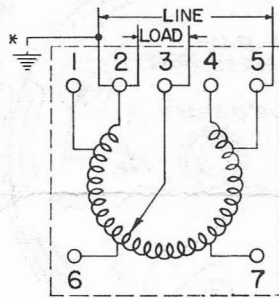
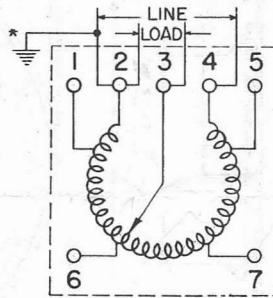

Figure 4
Figure 5
Dials are normally supplied for overvoltage operation, Figures 4, 6, 7, and 9. Dials for line voltage limit operation are available on special order. Dials are two-sided to permit either dial or pointer rotation, clockwise voltage increase being the rule in both cases. Pointers are provided, fastened to the under side of the dial, permitting fixed dial and moving pointer operation for panel mounting.
2. For particular applications, where the Variac is used with a fixed, known load, and where the overvoltage connection is omitted (Figures 5 and 8), maximum current may be drawn at line voltage. When the Variac is so connected, the current fall-off with decreasing output voltage will always keep the current within safe limits, except for incandescent lamp loads, which, for the Type V-5, should be limited to 6.5 amperes maximum.
RECOMMENDED CONNECTIONS are diagrammed in Figures 4 to 9 inclusive.
"T" MODEL CONNECTIONS are provided in the form of cord, plug, outlet and 2-pole switch. Figure 4 connections are normally supplied; Figure 5 connections may be obtained on special order. The marked plug prong connects to the wide slot in the outlet for polarizing purposes.
2. When using overvoltage circuit (Figures 4, 6, 7, 9) be sure connected load will stand overvoltage.